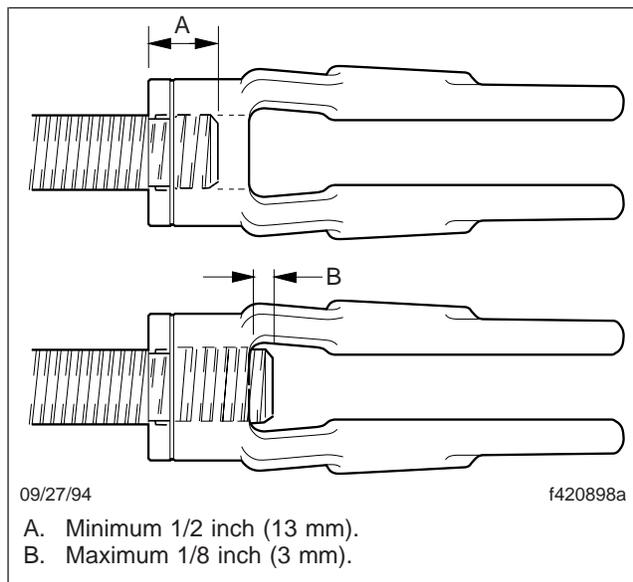

Fig. 7, Check Pushrod Engagement
- 7.12 Make sure there is at least 1/2 inch (13 mm) of thread engagement between the clevis and the pushrod. Also, check that the pushrod does not extend through the clevis more than 1/8-inch (3-mm). See **Fig. 7**.